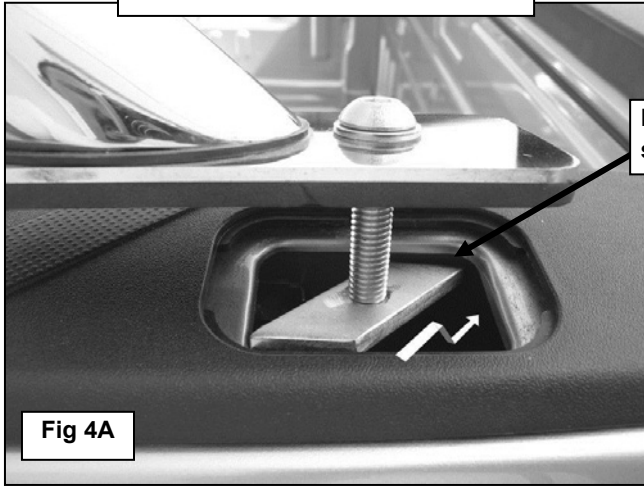
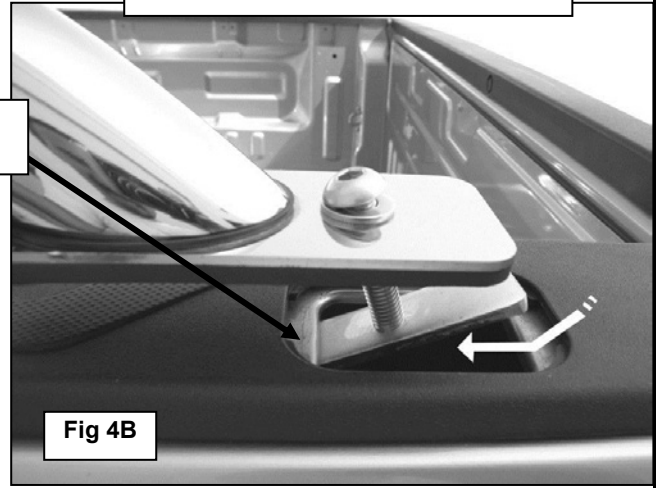

Fig 4A
Fig 4B
3. Attach (1) 10mm Bolt, (1) 10mm Flat Washer, and (1) Threaded Bracket to each end of Bed Rail as shown in **Figure 3**. **NOTE:** Depending upon your vehicle, use the correct size Threaded Bracket. For small stake pockets, use the parallelogram-shaped bracket, (**Figure 4A**) and for larger stake pockets use the rectangular-shaped bracket, (**Figure 4B**). Leave hardware loose.
4. Position the Bed Rail onto the top of the bed. Attach the front of the Bed Rail by tilting the Bolt until one side of the Bracket engages, (**Figure 4A & 4B**). Once you engage one side of Bracket, slide Bracket into stake pocket until opposite side of Bracket engages on the opposite side of stake pocket. Before tightening, engage the rear end of Bed Rail. Repeat this step to engage rear end of Bed Rail.